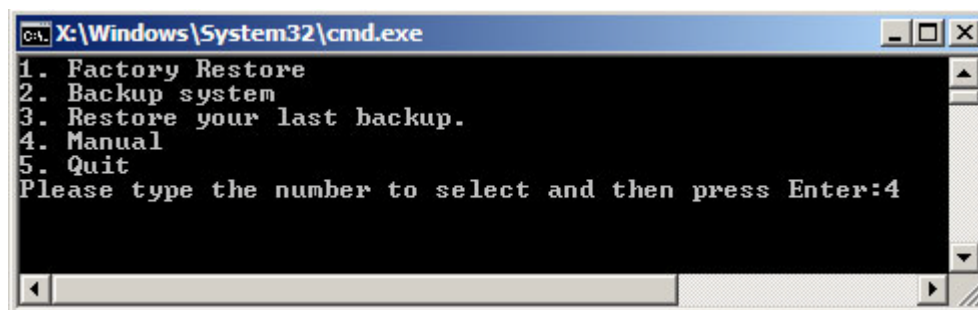

Figure B-11: Recovery Tool Menu
Step 2: The recovery tool menu appears. Type <4> and press <Enter>. (**Figure B-11**)